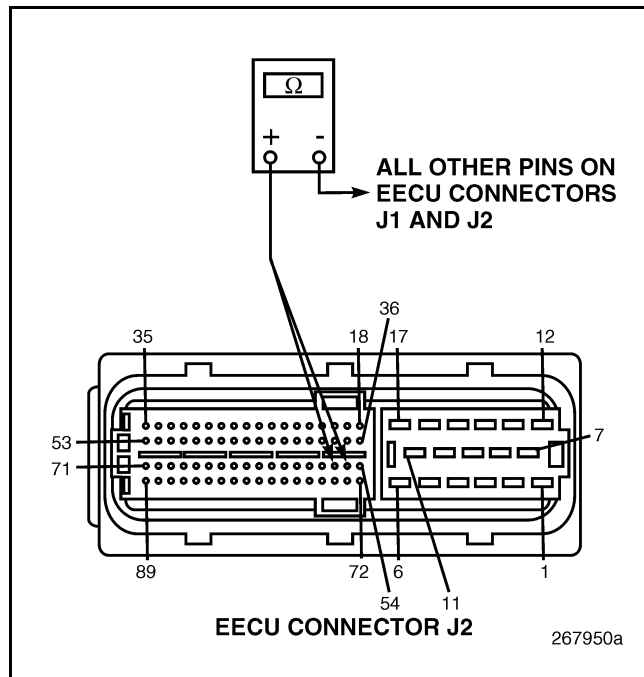

Figure 372
4. Check for continuity between EECU connector J2 pins 55 and 56 versus all other pins on EECU connectors J1 and J2 (see Figure 372).